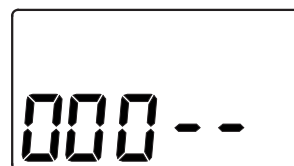

FIG. 27
1. Press and hold the SELECT button until the screen in Figure 27 is displayed.
- Press and hold the SELECT button until the screen in Figure 27 is displayed.